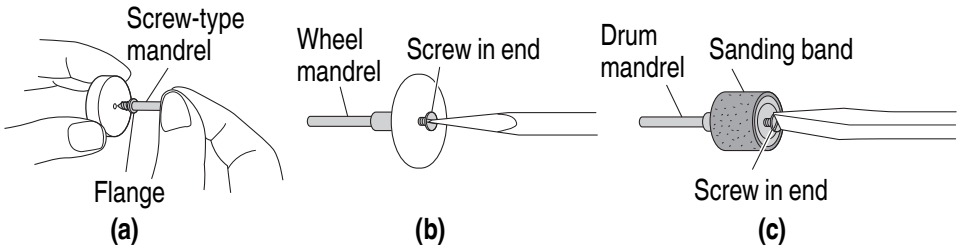

Fig. 7
1. How to use the screw-type mandrel (**Fig. 7 (a) on page 36**)
2. How to use the wheel mandrel (**Fig. 7 (b) on page 36**)
## 3. How to use the drum mandrel (Fig. 7 (c))